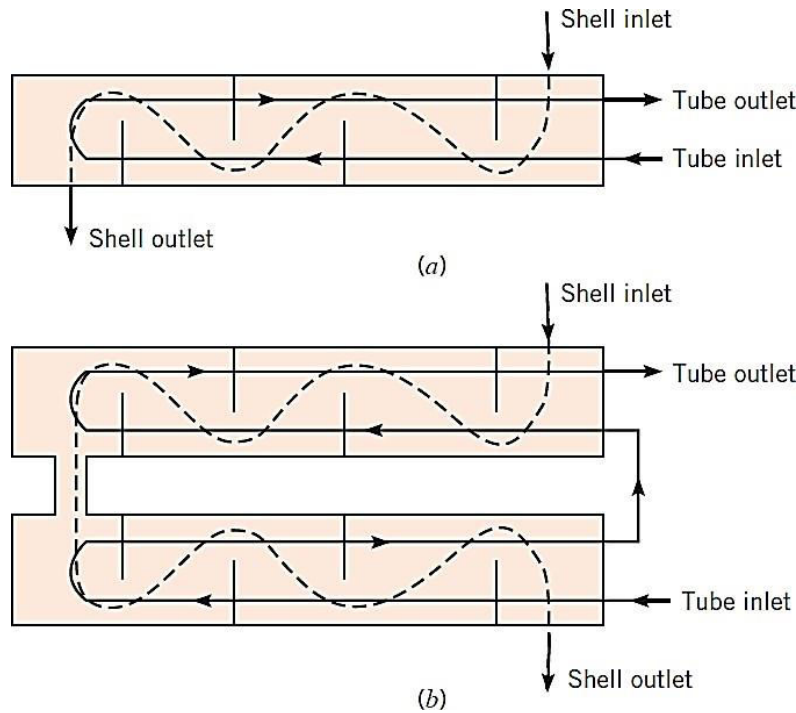

Fig. 9.5 Shell & tube heat exchangers. (a) One shell pass and two tube passes. (b) Two shell passes and four tube passes.
- **Multi-pass:** One or both fluids may traverse the exchanger more than once as shown in Fig.9.5.